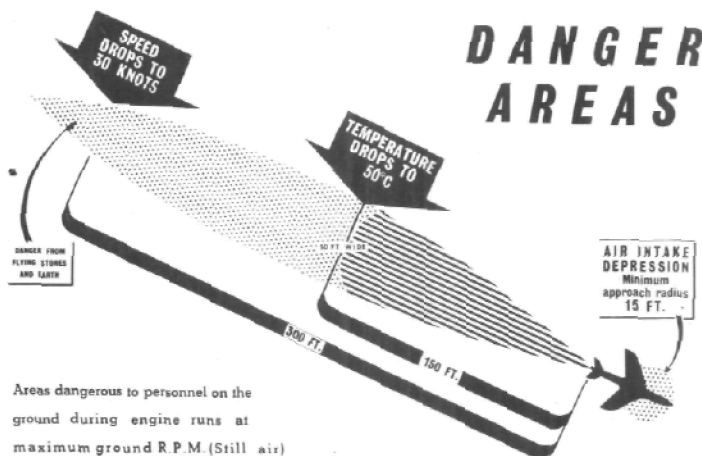

Fig.1 Engine running danger areas
- (c) The aircraft must be so positioned that the jet pipe is not directed towards any building or aircraft within a distance of 100 yards. For further details of safety precautions refer to AP 3158, Vol.2, Leaflet No. H.11 and to fig.1.
- (4) Correctly chock the main wheels and ensure that CO2 fire extinguishers are at hand (not foam or carbon tetrachloride extinguishers).
- (5) Check that the air-intakes are clean and free of loose articles, then fit the air-intakes safety guards if aircraft is not to be flown immediately after ground testing.
- (6) Ensure that the oil content of the engine sump and accessories gearbox is correct.
- (7) Verify that the main and nose wheel shock-absorber struts appear normal.
- (8) Remove the control locks, if fitted, and examine the flying controls for full and free movement.
- (9) Ensure that all hydraulic accumulators are correctly charged.
- (10) Ensure that the flaps are up and that there is a minimum hydraulic pressure of 1000 lb/in² in the brake system. The hydraulic hand pump (Chap.4, fig.1) may be used to achieve these conditions; the hand pump handle is stowed in clips inside the engine access panel.
- (11) Ensure that the tanks contain sufficient fuel.
- (12) Ensure that all access panels are securely fastened.
- (13) Ensure that the starting team is not wearing head-dress or loose clothing, that they fully understand their responsibilities and signals to be used, and that the look-out man is positioned.
- (14) Ensure that all personnel keep clear of the air-intakes, starter exhaust and jet pipe (fig.1).
- (15) Switch ON the battery master switch and engine master switch. Press the re-light switch and listen for the pronounced crack of the two high-energy igniters firing. Switch OFF the electrical supply.
- (16) Check the anti-icing system gate valve by switching it ON and OFF and ensuring that it opens and closes in 10 seconds (approx) in each direction and that the indicator on the starboard shelf adjacent to the switch is functioning.
- (17) Load the triple-breech starter (Chap.4). After the first cartridge has been fired, the two succeeding cartridges are selected automatically when the starter push-switch is operated.
2. (1) If necessary, connect an external power supply to the aircraft (Chap.4, fig.1, item 17).